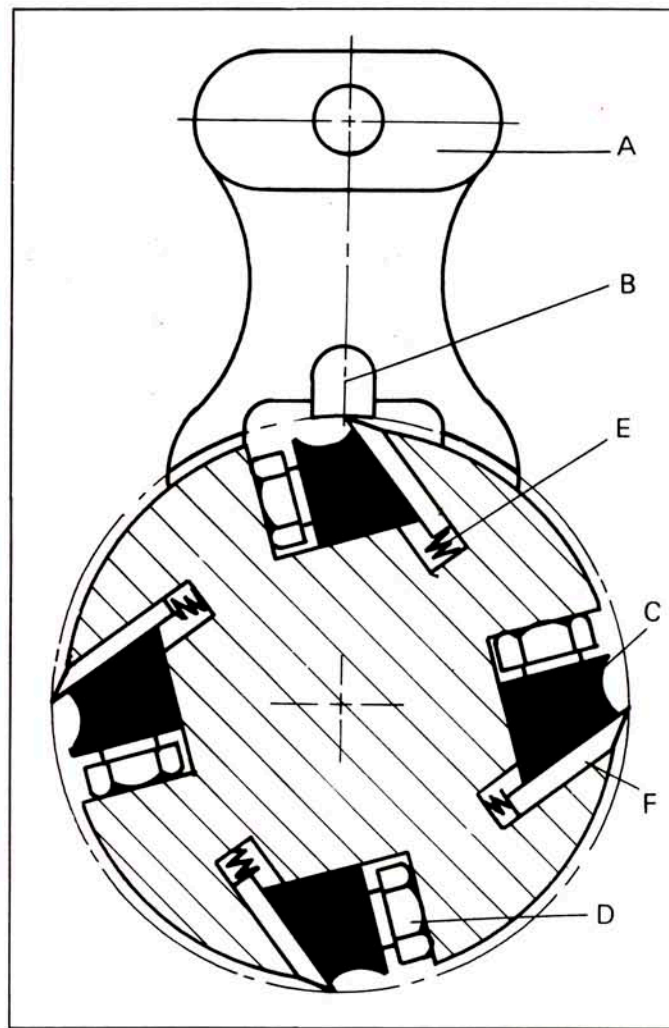

Fig. 22
3. To check and adjust knives use the knife gage (A) Fig. 22 and check all four knives. Knives should just contact the bottom of the center protrusion (B) of the knife gage, as shown in Fig. 22.
4. If an adjustment to one or more of the knives is necessary, slightly loosen the knife locking bars (C) Fig. 22, of all four knives by turning the 24 locking screws (D) Fig. 22 into the knife locking bars just enough to relieve stress in the cutterhead and not disturb the setting of the knives.
5. Using the knife gage adjust the knife, that must be reset by loosening all six locking screws (D) Fig. 22, by turning them into the knife locking bar. As the knife locking bar becomes loose, lifter springs (E) located under the knife will raise the knife until it comes into contact with the center protrusion (B) of the gage (A) Fig. 22. Then snug up the knife locking bar by lightly backing out the six locking screws (D) against the slot.
3. To remove knife, loosen the knife locking bar (C) Fig. 22, by turning the six knife locking screws (D) into the knife locking bar (C) and remove the knife locking bar (C), knife (F) and springs (E) located under the knives. Please take note, the inner two springs will pop out when removing the knife and knife locking bar.
6. Inspect the cutting edge of the knives for nicks or wire edge. Hone the knives slightly using a stone or if the knives are to be sharpened, maintain a cutting angle of 35 degrees as shown in Fig. 22
7. Insert springs (E), knives (F), and knife locking bar (C) into slot of the cutterhead, as shown in Fig. 22 Back out locking screws (D) just enough to hold the knife in the cutterhead.
8. Place the knife gage (A) over the knife as shown in Fig. 22
9. While holding down on the knife gage (A) Fig. 22, loosen all six locking screws (D) by turning them into the locking bar (C) until cutting edge of knife (F) comes into contact with the protrusion (B) of gage (A). Then snug up the knife locking bar (C) by slightly backing out the six screws (D) against the slot.
11. After all four knives are set with the screws just snug, back out and tighten the six screws (D) Fig. 22, against the slot starting with the end screws first and then the center screws until the knife is securely held in the cutterhead. Tighten the remaining three knives in the same manner.